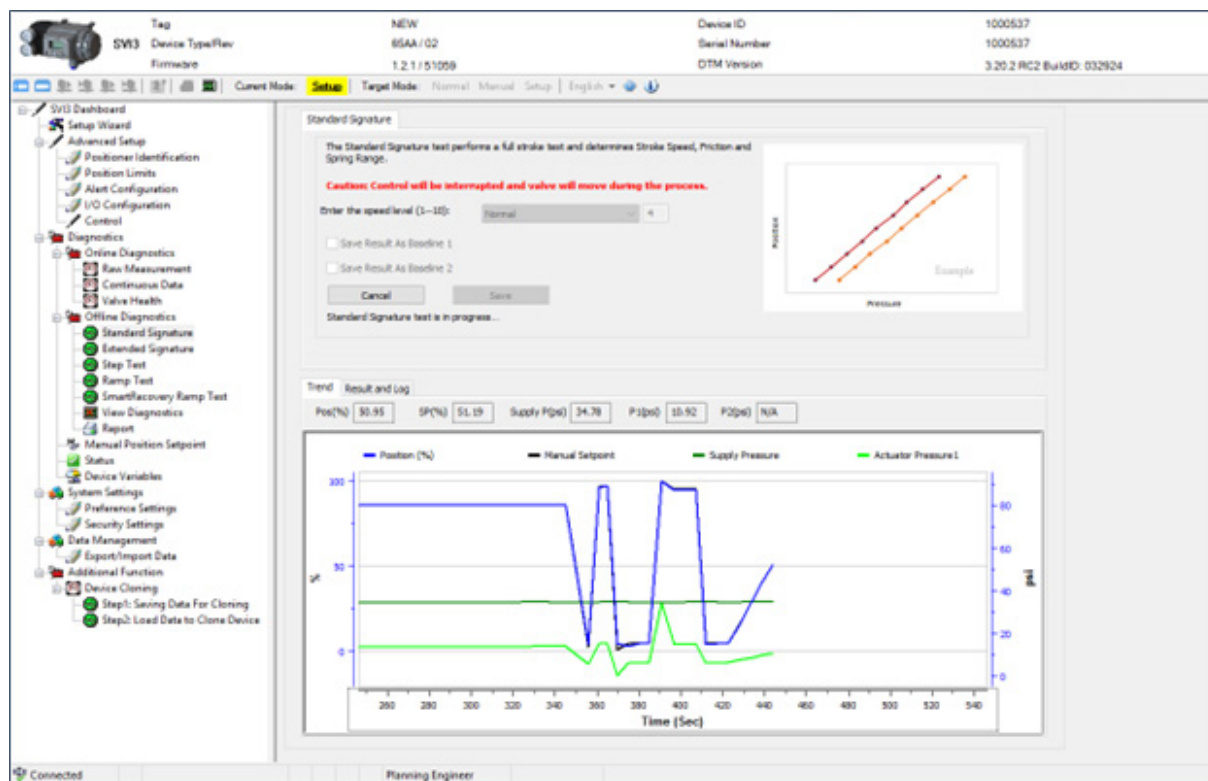

Figure 73 - Diagnostic: Offline Diagnostics: Standard Signature
2. Click **Standard Signature** tab and enter the *Speed Level* (Figure 73).